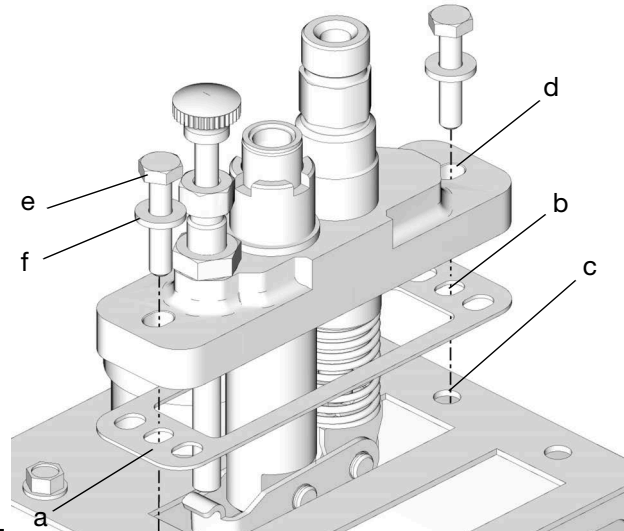

FIG. 1
2. Align gasket (a) with opening on the top of the reservoir cover making sure holes (b) on either end of the gasket match mounting holes (c) in reservoir cover (FIG. 1).
- Install pump on the reservoir by aligning the holes (d) on either end of the pump with the mounting holes (c) in the reservoir cover (FIG. 1).